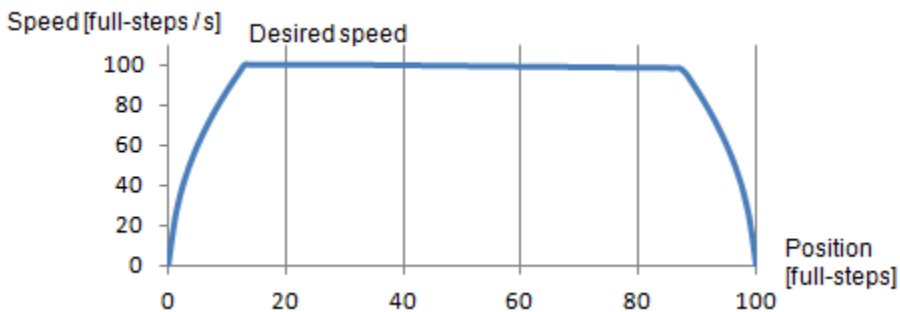

Figure 19. Acceleration and deceleration ramp
- a) The Full-step Configuration group contains speed and acceleration settings. Code for the acceleration and deceleration ramp is generated when the Acceleration property is set to a value greater than zero. Note that acceleration is always the same as deceleration. An example of an acceleration ramp is depicted in Figure 19. The acceleration setting is 400, as shown in Figure 18.